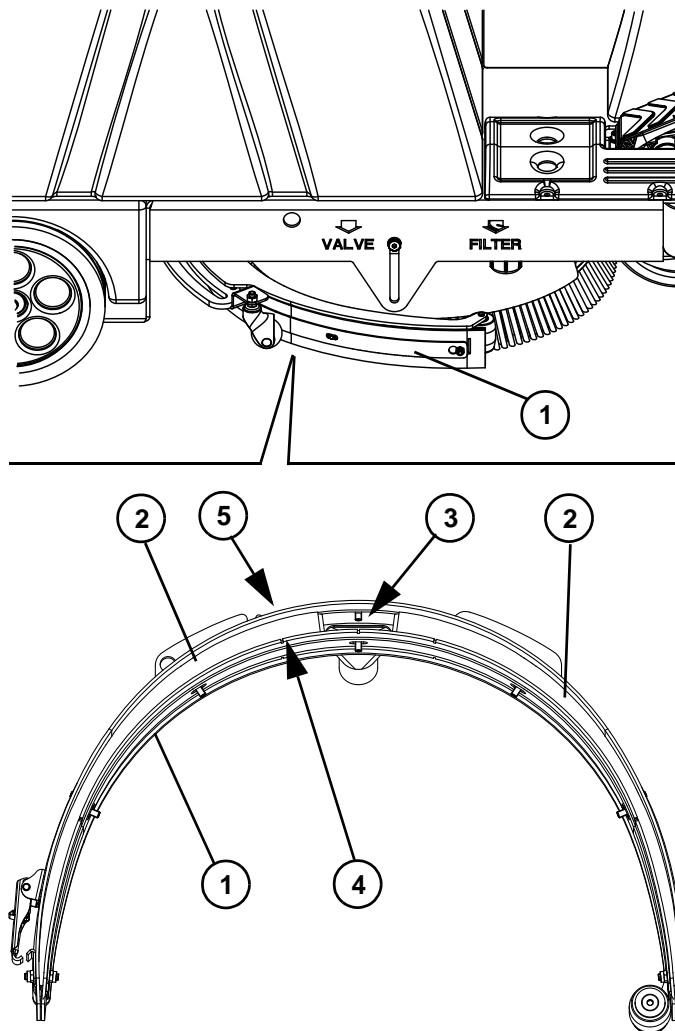

Figure 5-1
2. Wash and clean the squeegee (1, Figure 5-1); in particular, clean the dirt and debris in the spaces (2) and hole (3). Check that the front rubber blade (4) and the rear rubber blade (5) are whole and do not show cuts or tears, otherwise replace them (see procedure in the related paragraph).